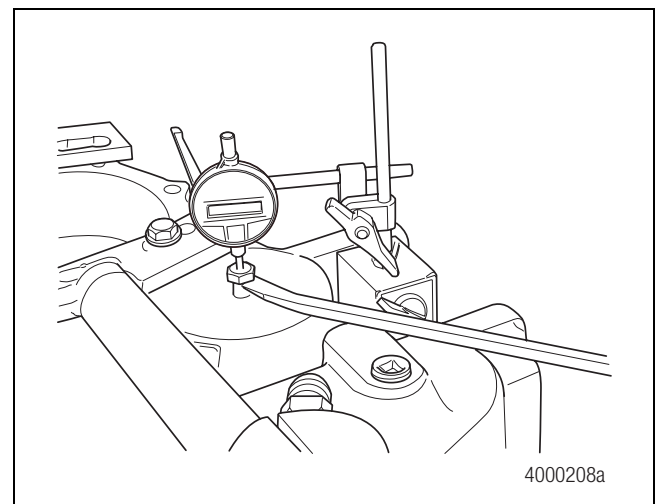

Figure 6.11
- Set up the dial indicator to check the idler shaft bearing end play. Center the dial indicator on the bolt head. Zero the indicator. Figure 6.11.